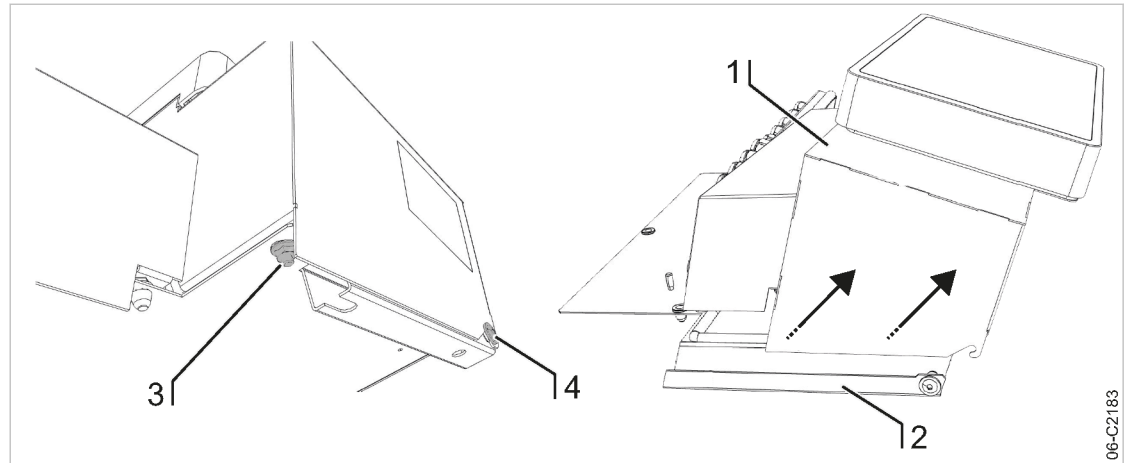

Fig. 9 Removing the control cabinet cover
7. Pull the cable gland cover ⑧ upward from the base plate and place on a suitable surface ⑦.
8. Separate the control cabinet cover ① (enclosure cover with SIGMA AIR MANAGER 4.0 terminal) from the base plate ② as follows.
9. First, use the SW4 spanner wrench to unscrew the two screws ③, then loosen the two screws ④ and carefully lift the control cabinet cover ① in arrow direction (see Fig. 9).
10. Place the control cabinet cover ① onto a suitable surface ⑦ (protected from dirt and scratching).
11. Properly attach the base plate ② to the wall. A template for the bore holes is provided in the annex (see chapter 13.1).